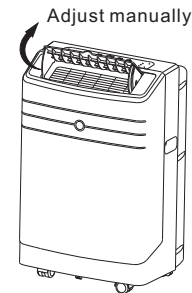

Fig.5
• Adjust the air flow direction manually (Fig.5):